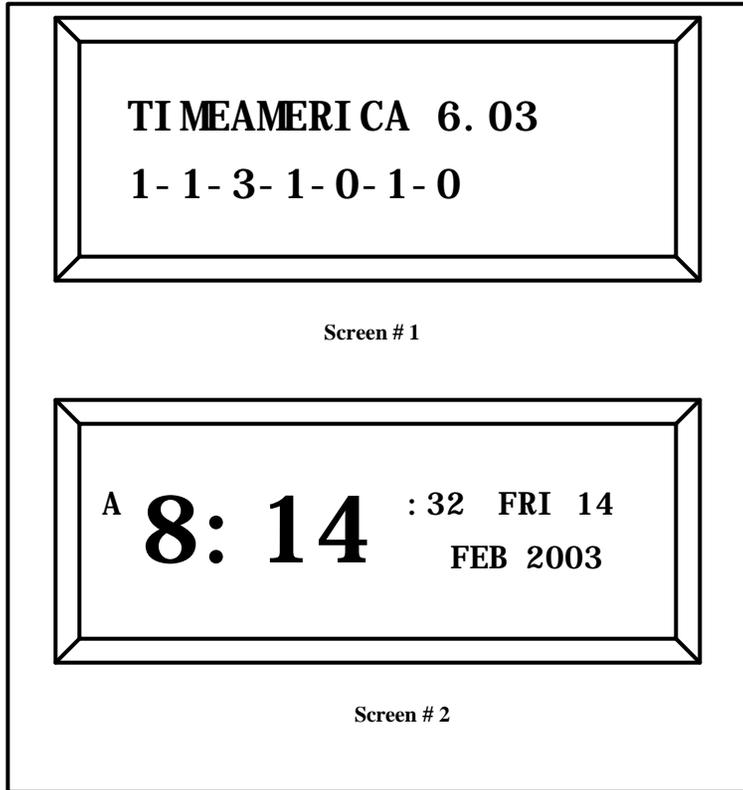

Figure 20: Power On Screens
- 1) Manufacturer's name, model number and BIOS Version (Figure 20, Screen #1).
- 2) Idle Screen (Date and Time) (Figure 20, Screen #2).